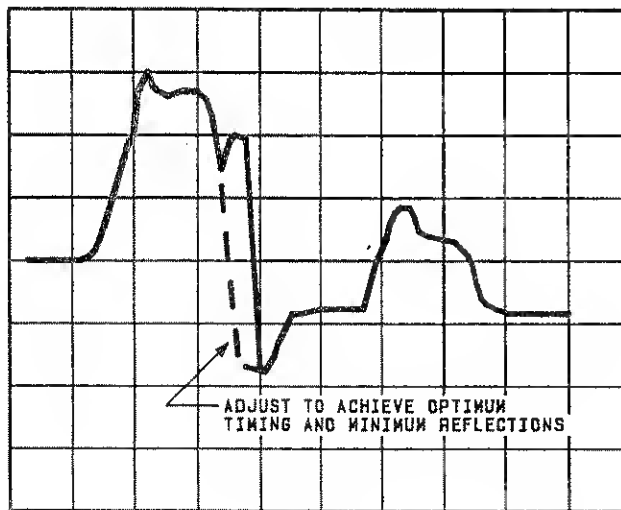

Figure 5-5. Bias Pulse Adjustment Waveform
4. Set potentiometer A1R14 (+PW) fully clockwise. Adjust counterclockwise to obtain the bias pulse waveform shown in Figure 5-5.